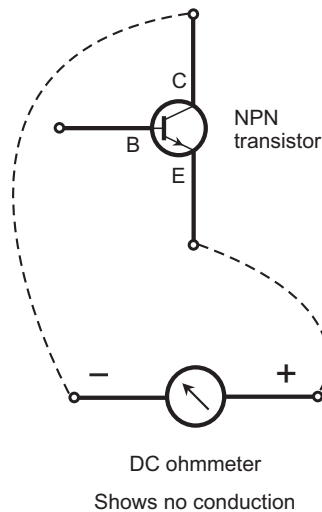

FIGURE 7-23 Electrons should not flow from the collector to the emitter.
6. Electrons should not flow from the collector to the emitter (Fig. 7-23).